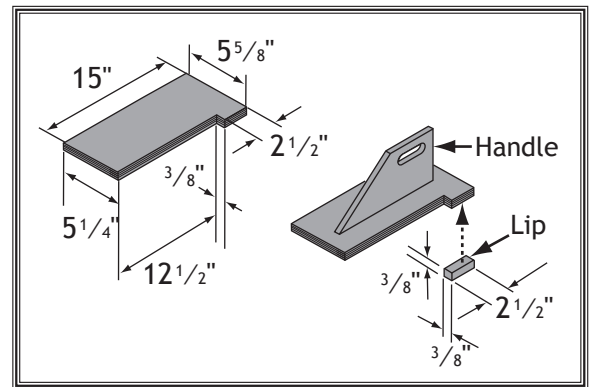

Figure 86. Push block dimensions and construction.
4. Using the $\frac{1}{2}$ " material you used in the previous steps, cut out pieces for the push block per the dimensions shown in **Figure 86**; for the handle, cut a piece 10" long by 5"-9" high and shape it as desired to fit in your hand.